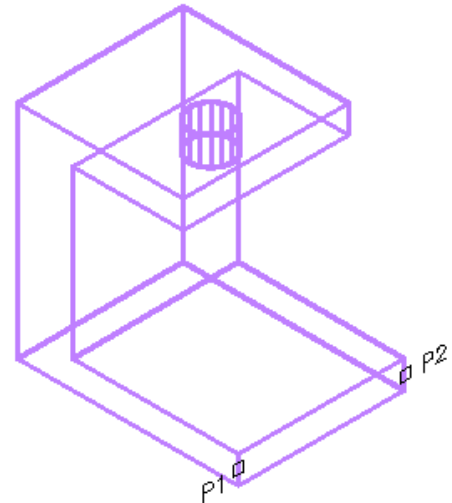

Figure Step 7
Step 7 Turn layer: Pline off. Enter the FILLETEDGE command, as shown below, to fillet the bottom corners. (Figure Step 7)